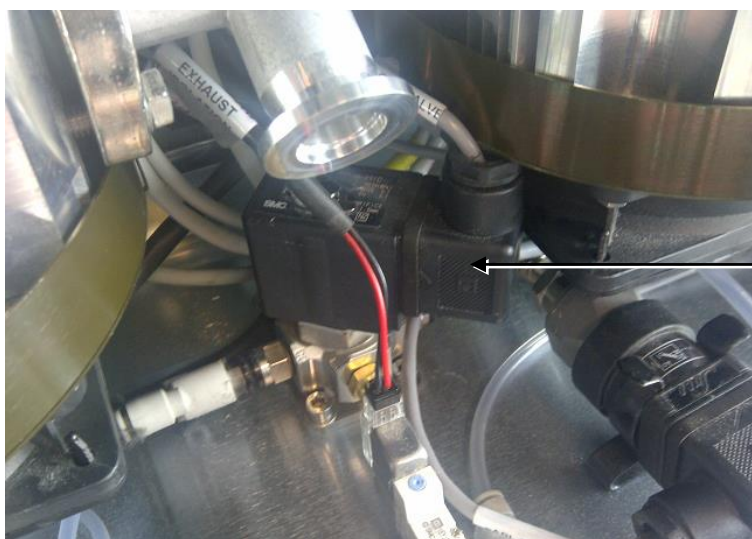

Figure 19 - Solenoid valve rotated to the right
14. Rotate the solenoid valve beneath the central turbo pump to the right to allow enough room to access the central turbo pump with the pin-spanner (Figure 19).